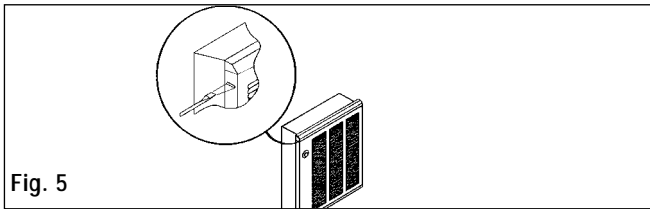

Fig. 5
3. Remove front cover by depressing plastic snap tabs with a flat bladed screw driver as shown in Figure 5. Release both tabs on one side then rotate the front cover off of the fan deck.